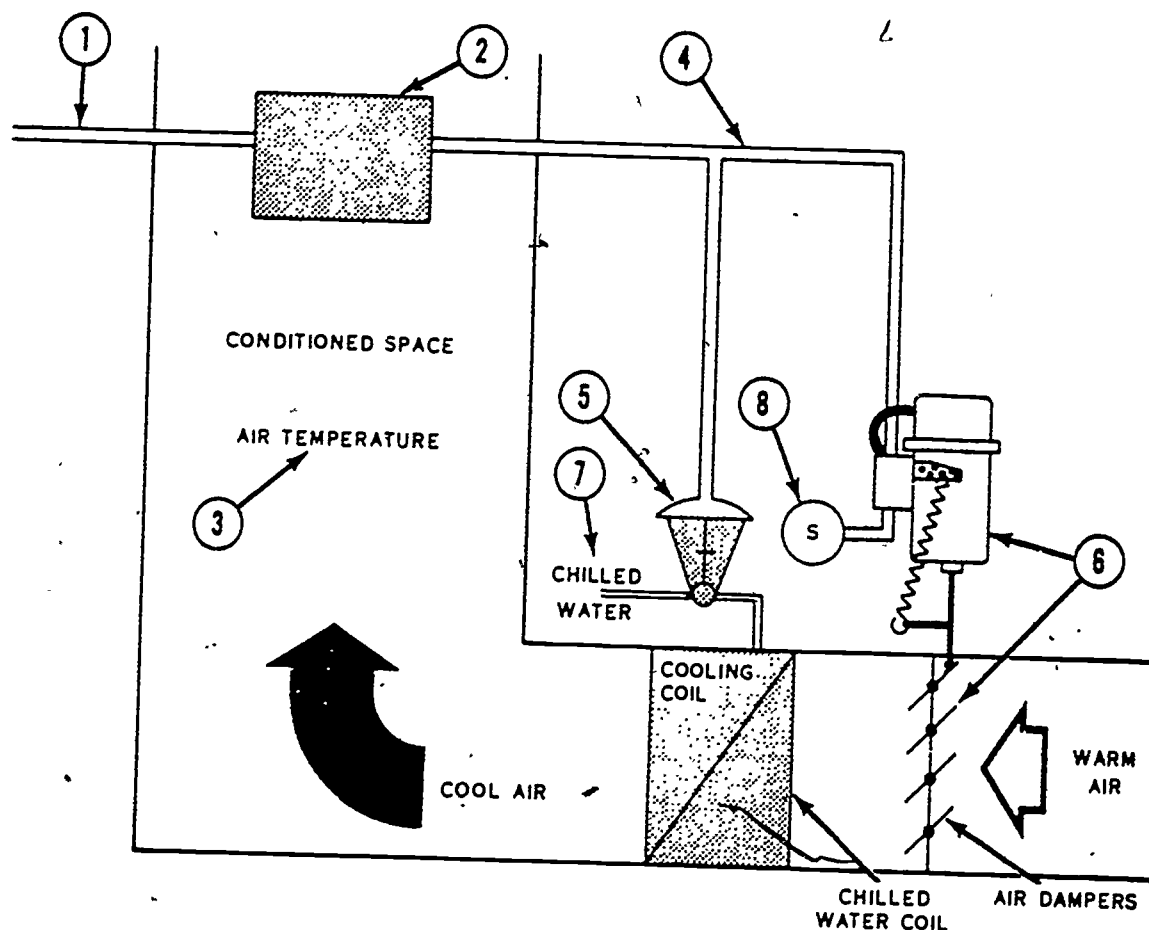

Figure 2-47. Control loop showing control terms.
Controls Terms. Refer to the numbered schematic in figure 2-47 for additional clarification of terms.
- **Supply (main air) pressure:** The air pressure supplied to a controller. It is usually 15 to 20 psig (see number 1, fig. 2-47).
- **Controller:** An instrument that senses variations in the controlled variable and produces a corresponding control action: e.g., thermostat, humidistat, or pressure controller (see number 2, fig. 2-47).
- **Controlled variable:** That which is being controlled—air temperature, relative humidity, pressure (see number 3, fig. 2-47).
- **Control (branch line) pressure:** The output air pressure from a pneumatic controller (see number 4, fig. 2-47).
- **Controlled device:** The final control element, such as a valve or damper, which is actuated by the controller and regulates the flow or effect of the control agent (see number 5 or 6, fig. 2-47).
- **Control agent:** The medium regulated by the controlled device—such as steam, hot water, chilled water, and brine—that effects changes in the controlled variables (see number 7, fig. 2-47).